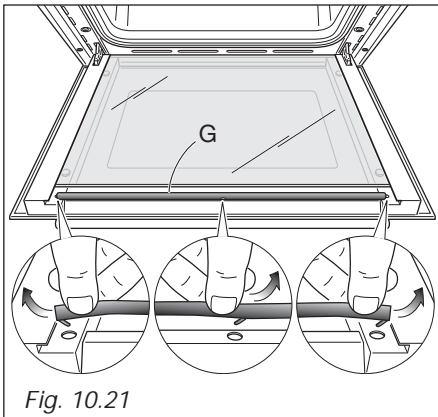

Fig. 10.21
- Remove the seal **G** by unhooking the no. 3 fixing hooks (fig. 10.21).